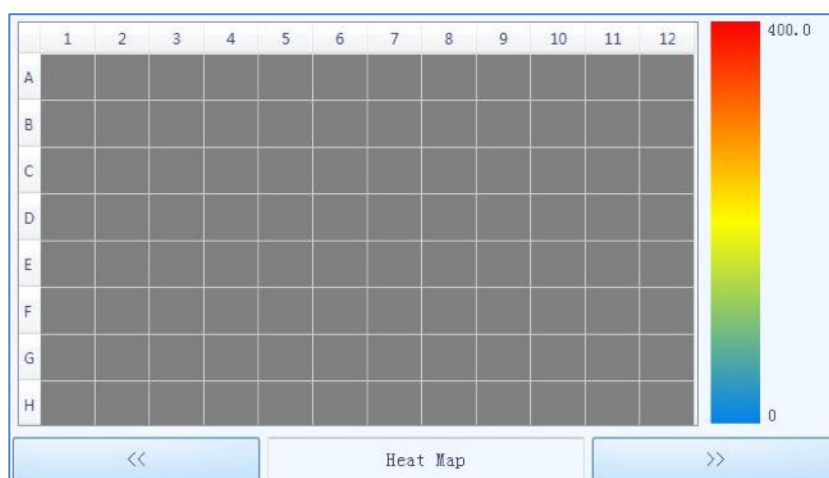

Figure E-5.3 Run Monitoring Diagram - Heat Map
- c. Users can press  key below the run monitoring diagram to monitor the fluorescence **Heat Map** of the current experiment, as shown in figure E-5.3.